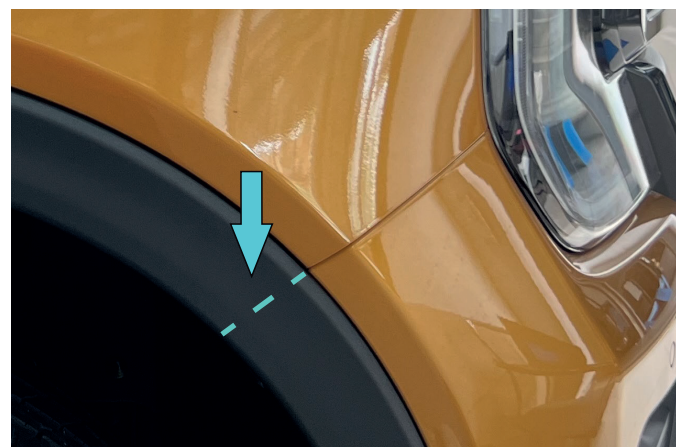

Fig.6
6. Mark future cutting line along the bumper split line (fig.6).